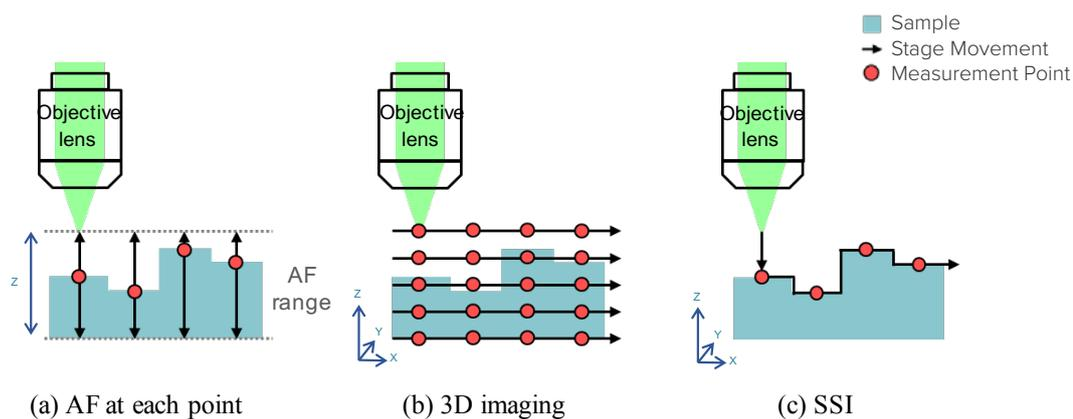

Figure 1. Uneven surface sample measurement.
Conventionally, Raman imaging measurement of a sample with surface roughness was performed with autofocus (AF) was carried out at each measurement point (figure 1-a), or XYZ 3D imaging measurement was carried out (figure 1-b).
SSI (figure 1-c) calculates the sample height (irregularity) information from a multifocus* image and performs imaging measurement while scanning the stage based on this information. Although it also depends on measurement conditions and sample shape, the time required for Raman imaging measurement is greatly shortened compared with the conventional method.